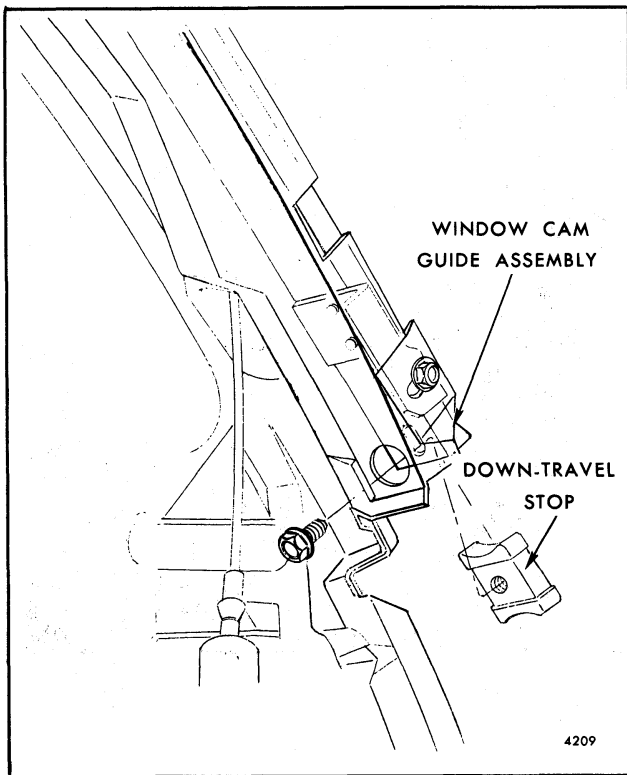

Fig. 7-121-Tailgate Window Down-Travel Stop
7. While supporting glass, remove tailgate window down-travel stop(s) (Fig. 7-121) and carefully remove window.
Window down-travel is controlled by an adjustable stop in lower end of window right guide cam for manual tailgates and both guide cams for power operated tailgates (Fig. 7-121).